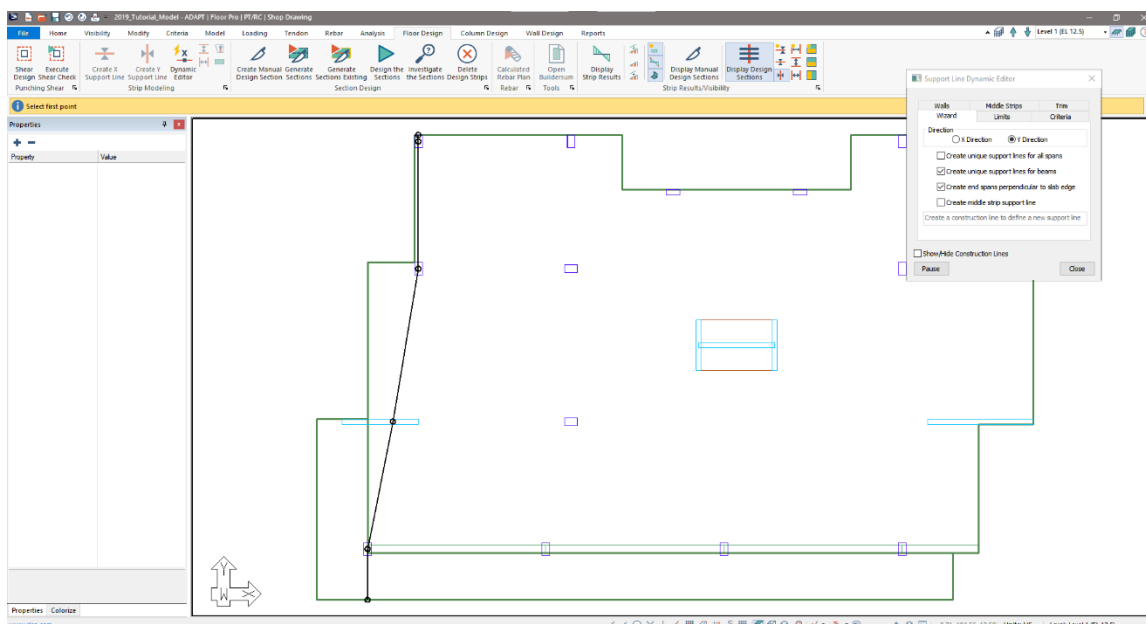

Figure 9-32
- Click on the *Top View*  icon in the **Bottom Quick Access Toolbar**. This will bring you to the view of the model shown in **FIGURE 9-32**.